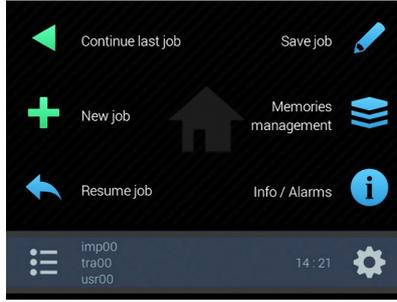

Fig. 233
- Switch the monitor on (par 1.2). After self-diagnosis, the monitor displays screen "Home" (Fig. 233).